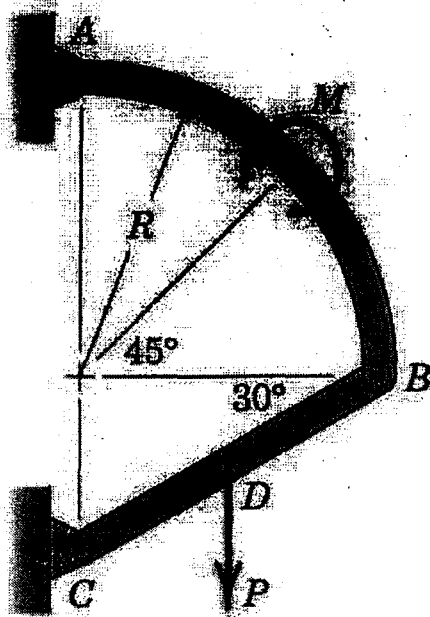

Fig. 6.
- 5 A force P is applied at the mid-point D of the member BC (Fig.6). Determine the value of the couple M in terms of P and R such that: (i) the horizontal force transmitted by the pin B is zero. (ii) the vertical force transmitted by the pin B is zero. Both the members are of negligible self weight. (5+5)
- 6 Determine the centroidal polar moment of inertia of the area bounded by the straight line $x = y$ and the parabola $x = y^2$. (10)